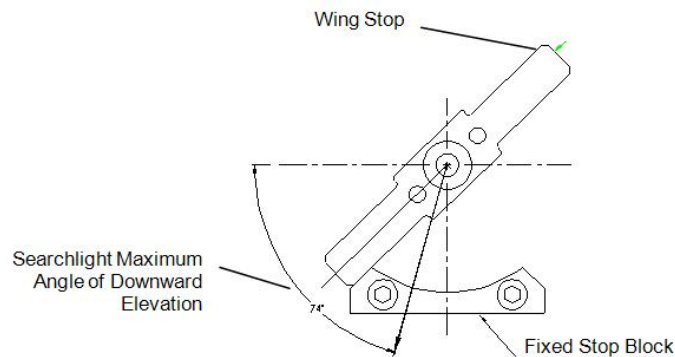
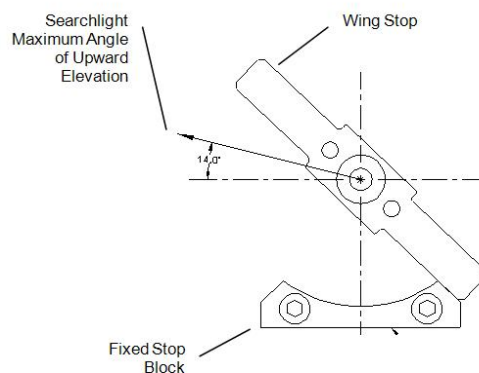

Figure 28 Maximum Lookdown Angle
Figure 29 Maximum Lookup Angle
Figure 28 and Figure 29 show how the fixed stop block acts to constrain the movement of the wing stop. The wing stop is attached to the kidney-shaped plate that is mounted on the Searchlight head. It rotates in a clockwise or counterclockwise direction to change the elevation of the Searchlight. Its rotation is limited by the fixed stop block mounted on the
- Figure 28 shows the wing stop positioned in the maximum lookdown angle (-74°).
- Figure 29 shows the wing stop positioned in the maximum lookup angle ($+14^\circ$).